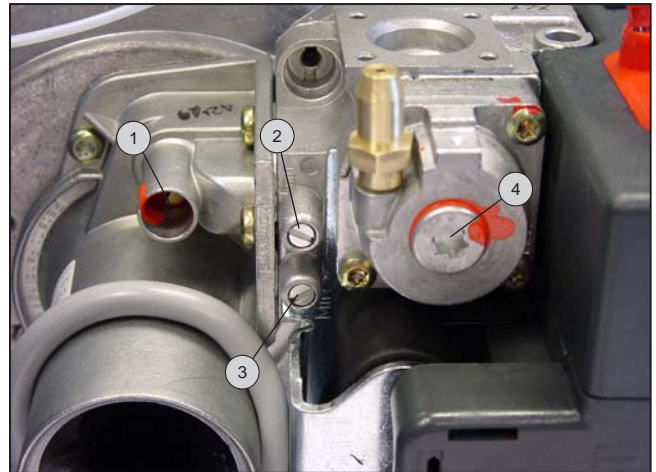

Fig. 16
- Adjust the % of CO2 to the figure shown in the table of setting parameters on Page 15 by turning the gas flow adjuster screw on the gas valve. (Fig. 16)